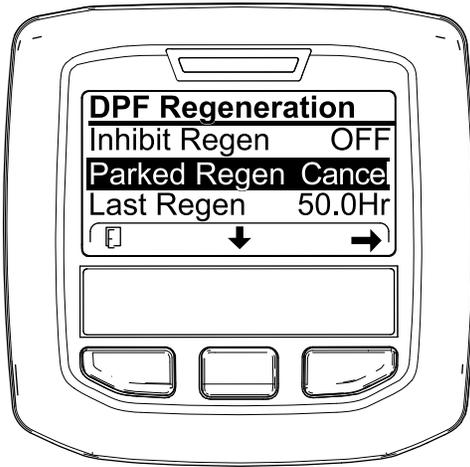
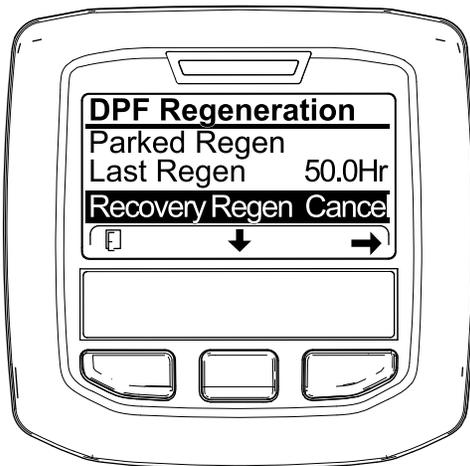

Figure 58
Figure 59
1. Access the DPF Regeneration menu (Figure 58).
2. Press the center button to scroll down to the PARKED REGEN CANCEL (Figure 58) or the RECOVERY REGEN CANCEL option (Figure 59).
3. Press the right button to select the Regen Cancel entry (Figure 58 or Figure 59).